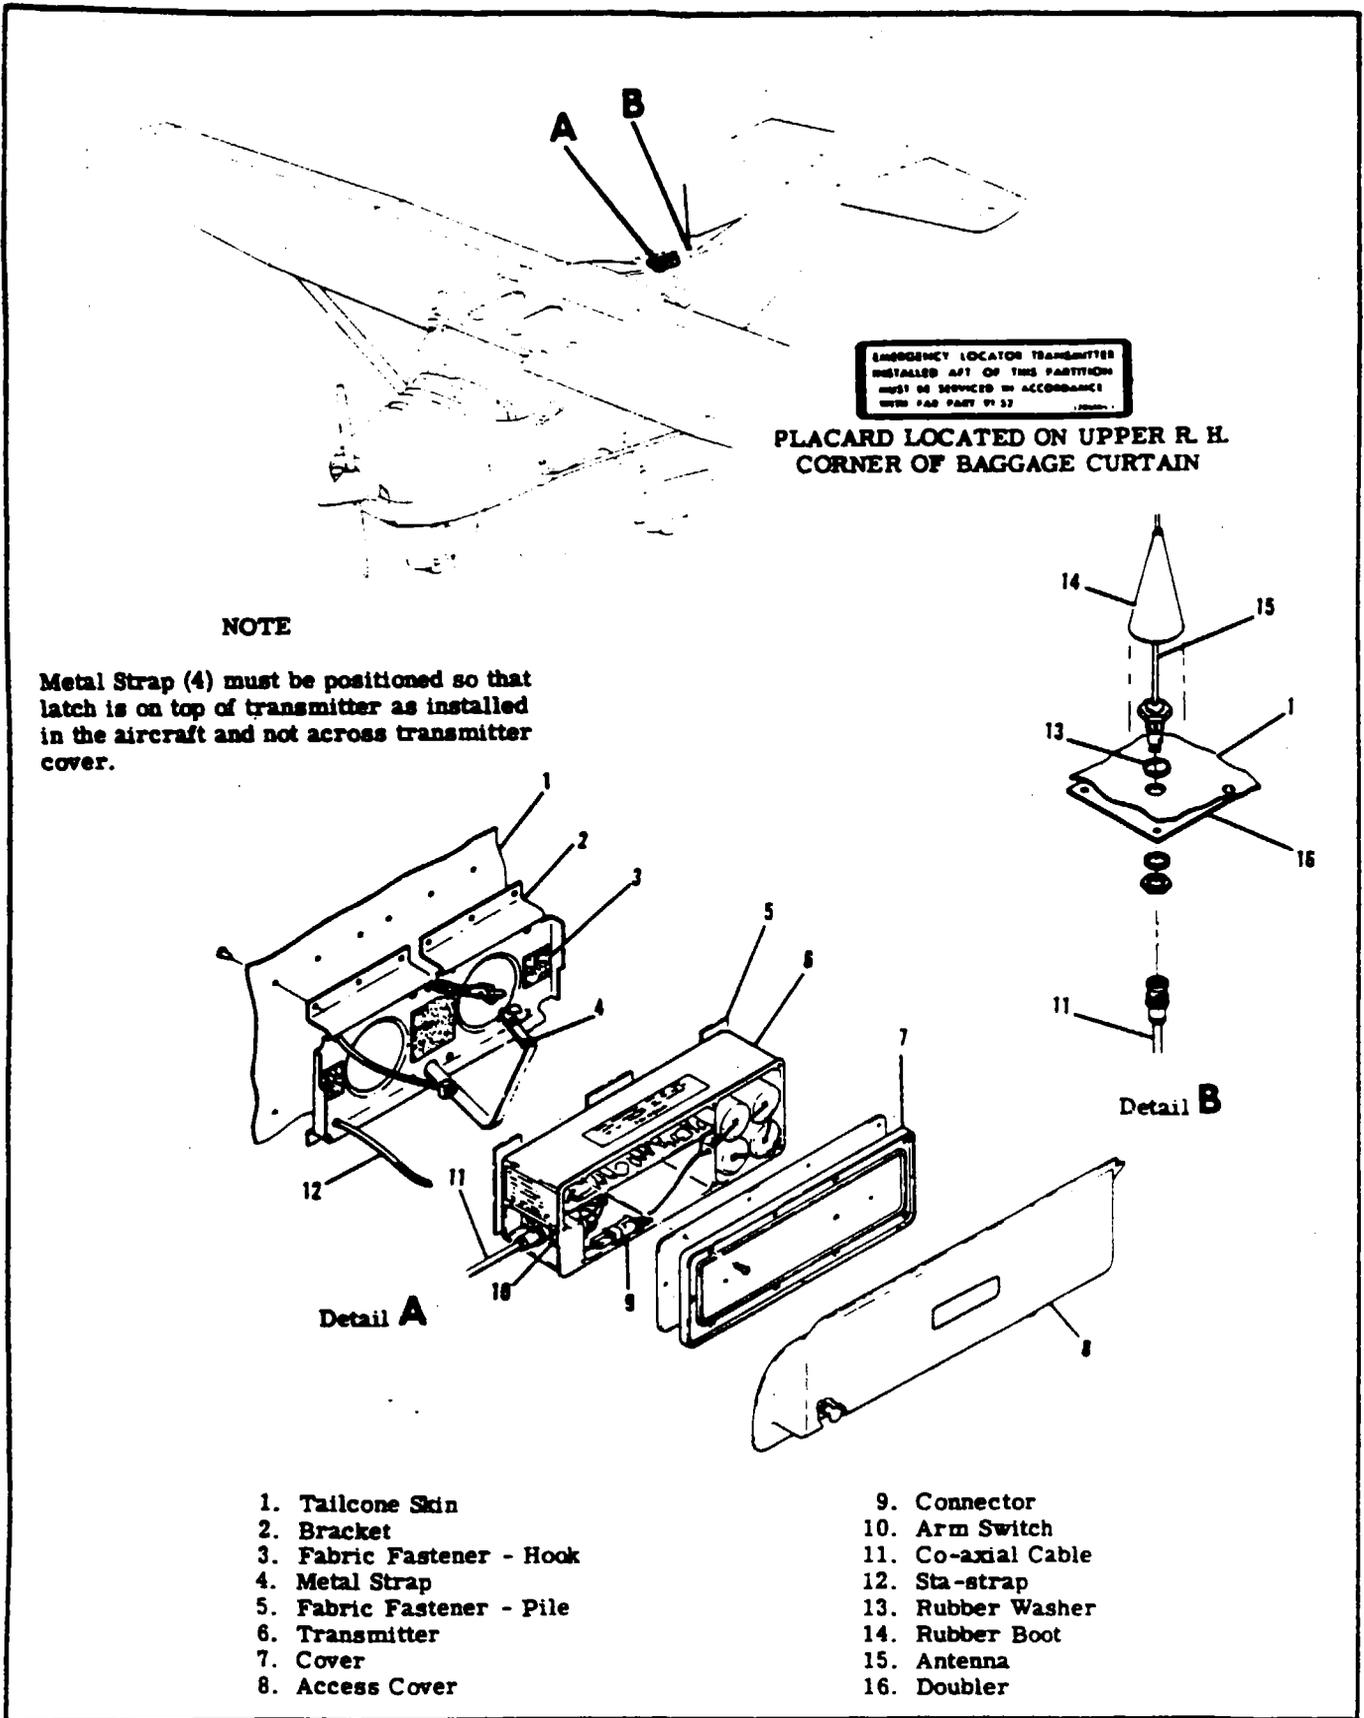

Figure 16-15. Emergency Locator Transmitter Installation
- 16-92. **REMOVAL AND INSTALLATION OF TRANSMITTER.** (See figure 16-15.)
- 16-93. REMOVAL AND INSTALLATION OF ANTENNA. (See figure 16-15.)